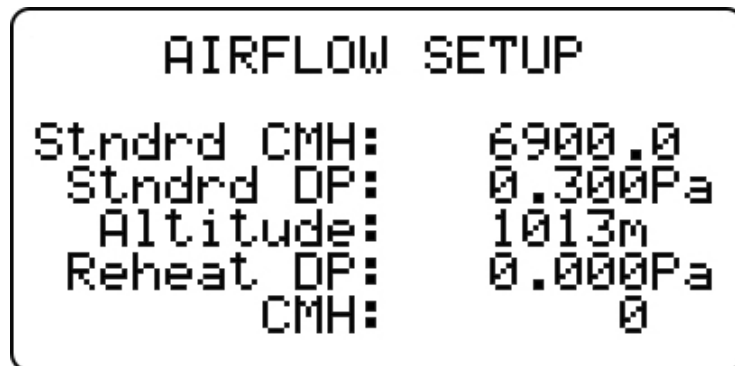
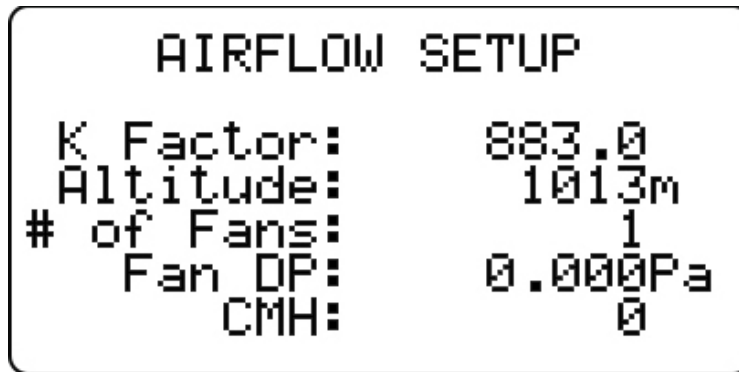

Figure 31
Figure 32
4.3.4.1.6 Airflow Setup (Figure 31)
Selecting the AIRFLOW SETUP from the Commissioning Menu will display either the screen shown in Figure 31 or Figure 32.
If the unit has a centrifugal housed blower, the screen will appear as Figure 31. The Standard CFM, Standard Differential Pressure, and Altitude are all adjustable towards the top half of the screen. Standard CFM is the target airflow rate of the unit. Standard DP is the differential pressure of the reheat coil when Standard CFM at sea level is achieved. These values are programmed at the factory for the specific model size.
If the unit has a plenum fan, the screen will appear as Figure 32. From the Airflow Setup screen the K-Factor, Altitude, and Number of Fans are all adjustable towards the top half of the screen. Although corrections to the K-factor and number of fans are possible at the time of air balancing, it is recommended that Desert Aire Service be consulted before adjustment.